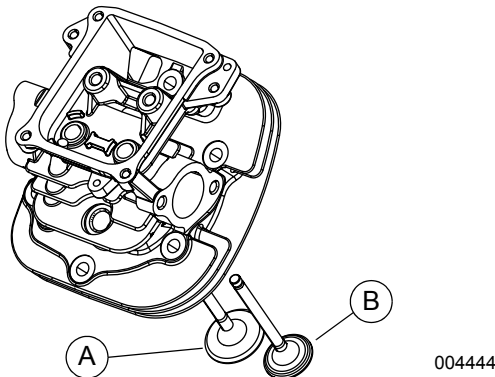

Figure 7-14. Install Valves
2. See Figure 7-14. Install intake (A) and exhaust (B) valves.